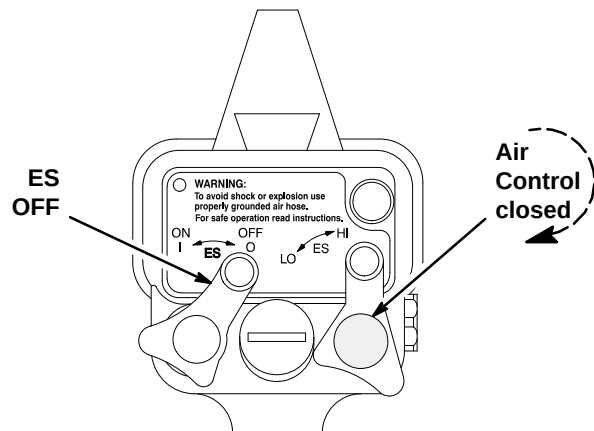

Fig. 4
2. Turn the ES ON-OFF lever OFF and close the air control knob. See Fig. 4.